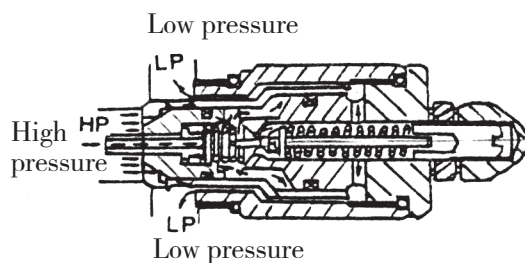

Fig.7.6
(2) When the pressure in the cylinder port “HP” reaches the set pressure of the pilot poppet spring force, the pilot poppet “E” opens. The oil passes around the poppet, flowing through the drilled hole to the low pressure side “LP”. (See Fig.7.6)